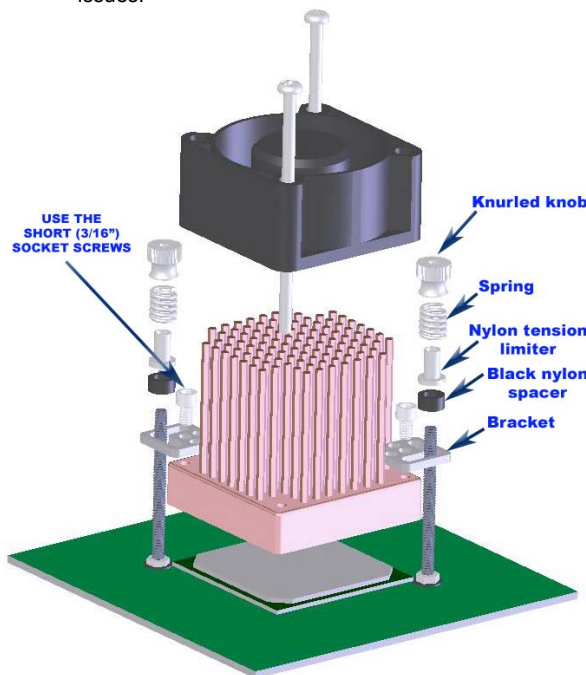
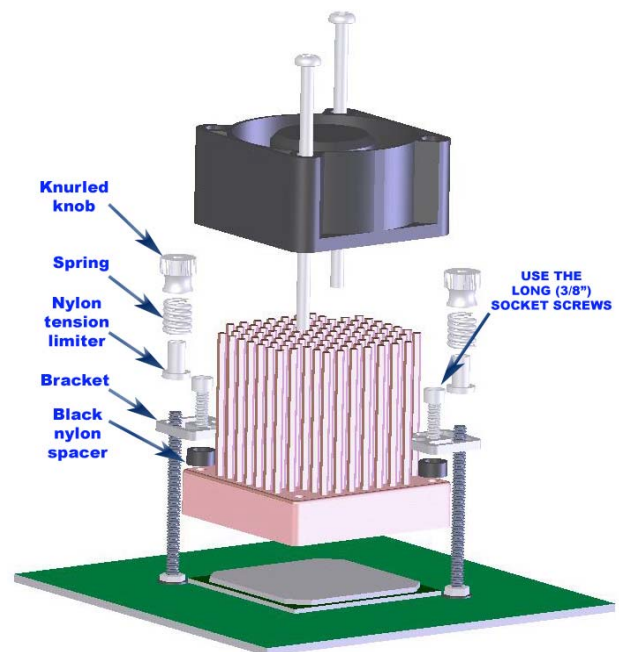

Figure 7
Figure 8
- a. Bracket will be attached directly onto the heatsink as shown in figure 7.
- b. A spacer will be placed between the bracket and the heatsink to position the bracket higher, and allow clearance for capacitors in some motherboards (Asus A8N-SLI for example), as shown in figure 8.
- ❑ Fasten the heatsink to the motherboard as shown in figure 7 or figure 8 as appropriate. Gently tighten the knurled knobs incrementally until resistance from the tension limiter is felt.